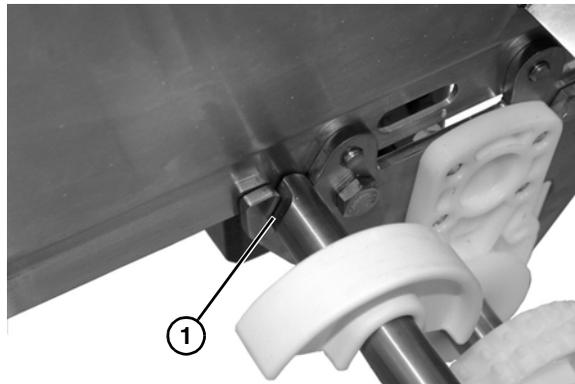

Figure 38
6. When replacing belt return, be sure shaft is seated in pocket on side plate (**Figure 38, item 1**).